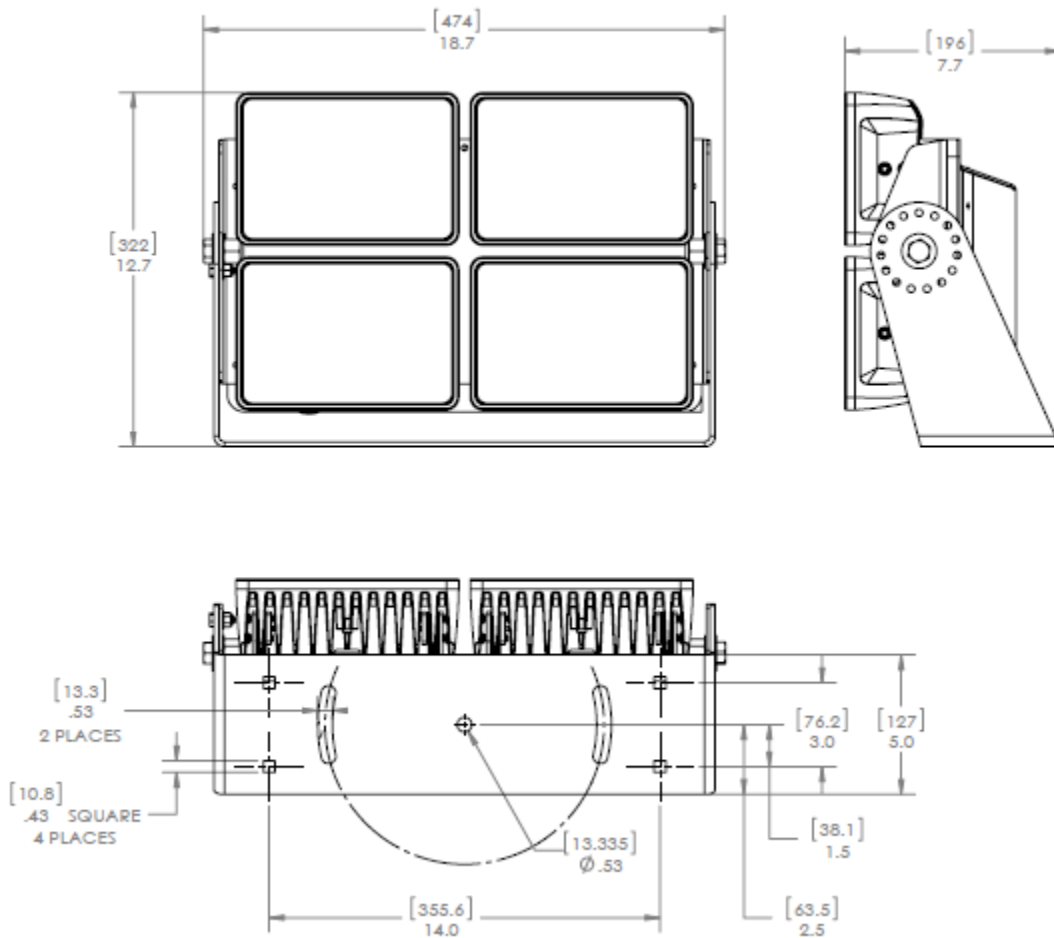

Figure 1
1. Determine the mounting location of the bracket using the bolt hole pattern (Figure 1.).
2. Mount the bracket using four (3) 1/2" bolts or (4) 3/8" carriage bolts.